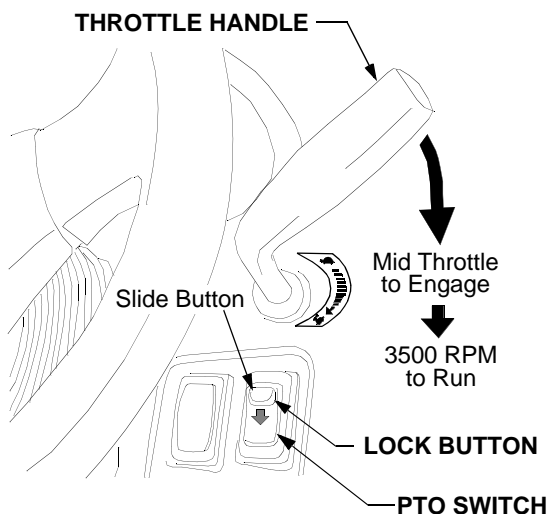

Figure 20
- Move the throttle handle to the mid throttle position. See Figure 20.
- Slide the lock button rearward and then push the top of the PTO switch downward to engage the PTO. See Figure 20.